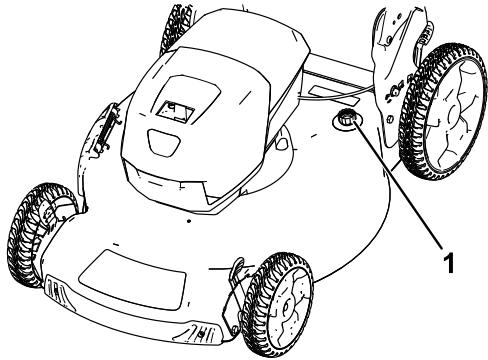

Figure 19
- Attach a garden hose that is connected to a water supply to the washout port (Figure 19).